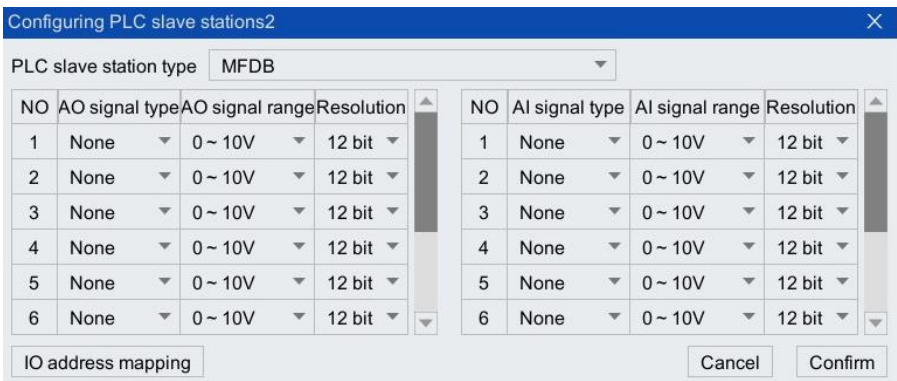

Figure 5-7 Configure PLC slave interface
Step3. In the [Configure PLC Slave Station-2] interface, select the matching "PLC Slave Station Type" based on the information in Table 5-3. Figure 5-7 shows the interface for selecting "MFDB".
Step4. After completing the parameter configuration in Figure 5-7, click <Yes>, and a prompt dialog box will pop up (as shown in Figure 5-8). Click <Yes>, and after the power is turned off and restarted, the configuration takes effect. After taking effect, re-enter the [PLC Slave Configuration] interface, and the display will be shown in Figure 5-9.